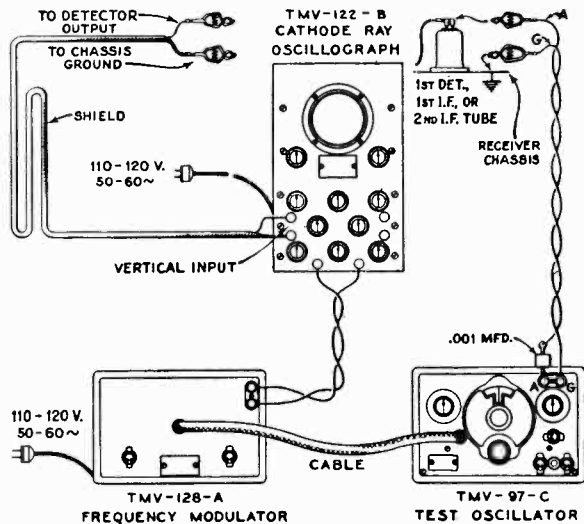

Figure 2—Alignment Apparatus Connections
Six trimmers are associated with the three i-f transformers. Their locations on the chassis are shown by Figure 4. Each must be aligned to a basic frequency of 460 kc. The last i-f transformer should be adjusted first, the one preceding it second and the operation carried through successive stages until the first transformer has been aligned. For such a process, it is necessary to feed the output of the Full-Range Oscillator to the stages in their order of alignment, adjusting the trimmers of each and observing the effect at the second-detector output on the Cathode-Ray Oscillograph. The most convenient point for connection of the Oscillograph is at the control-grid of the RCA-6C5 first audio tube, with the vertical "Hi" input terminal attached to the grid connection and the "Gnd" to the chassis. The "Ext. Sync." terminals of the Oscillograph should be connected to the Frequency Modulator as illustrated in Figure 2. A .001 mfd. capacitor installed in series with the Oscillator "Ant." output lead will prevent the voltage constants of the stage being aligned, from becoming upset.
- (b) Attach the output of the test Oscillator between the control-grid cap of the second i-f tube (RCA-6K7) and chassis ground as shown typically by Figure 2. Tune the Oscillator to 460 kc. and set its modulation switch to "On." Regulate its output until the signal produces a wave pattern on the Oscillograph screen, adjusting the Oscillograph controls to give a shape which is convenient for peak indications. Cause the image to stand still on the screen by manipulation of the frequency and synchronizing controls. Then carefully tune the two trimmers C-44 and C-45 of the third i-f transformer to produce maximum amplitude (vertical deflection) of the oscillographic image. Under this condition the transformer will be sharply resonated to 460 kc.
- (c) The Frequency Modulator should then be placed in operation and interconnected with the Full-Range Oscillator by means of the special shielded patch cord. Figure 2 shows the proper arrangement. Set the Frequency Modulator sweep-range switch to its "Lo" position and turn the Oscillator modulation switch to "Off." Change the timing control of the Oscillograph to "Ext." and place the range switch to its No. 2 position. Then carefully shift the tuning of the Oscillator so as to increase its frequency, until two distinct and similar waves appear on the Oscillograph screen and become exactly coincident at their highest points. This condition will be found to occur at an Oscillator setting of approximately 540 kc. The curves will be identical in shape but appearing in reversed positions. Adjust the frequency control of the Oscillograph in order to cause the waves to conform with the above requirement and to make them remain motionless on the screen. This will require a setting of approximately  $\frac{1}{2}$  clockwise rotation of the frequency control. The trimmers C-44 and C-45 should then be re-adjusted so that the two curves move together and become exactly coincident throughout their lengths, maintaining the maximum amplitude at which this condition can be brought about.
- (a) With the receiver range switch in its Band A position, tune the station selector until the dial pointer is at a reading of **1720 kc.** Adjust the test Oscillator to **1720 kc.** (modulation "On" and Frequency Modulator disconnected) and increase its output to produce a registration on the Oscillograph. Carefully align the oscillator, detector, and antenna trimmers, C-25, C-14, and C-3 respectively, so that each brings about maximum amplitude of output as shown by the wave on the Oscillograph. It will be necessary to have the timing control of the Oscillograph on "Int." for this operation. After each trimmer has been peaked, the Oscillograph timing control should be set to "Ext." and the Frequency Modulator placed into operation with its connections to the Oscillator and Oscillograph made in accordance with Figure 2. Turn the modulation switch of the Oscillator to "Off" and retune the Oscillator (increase frequency) until the forward and reverse waves show on the Oscillograph and become coincident at their highest points. Adjust the trimmers C-25, C-14, and C-3 again, setting each to the point which produces the best coincidence and maximum amplitude of the wave images.